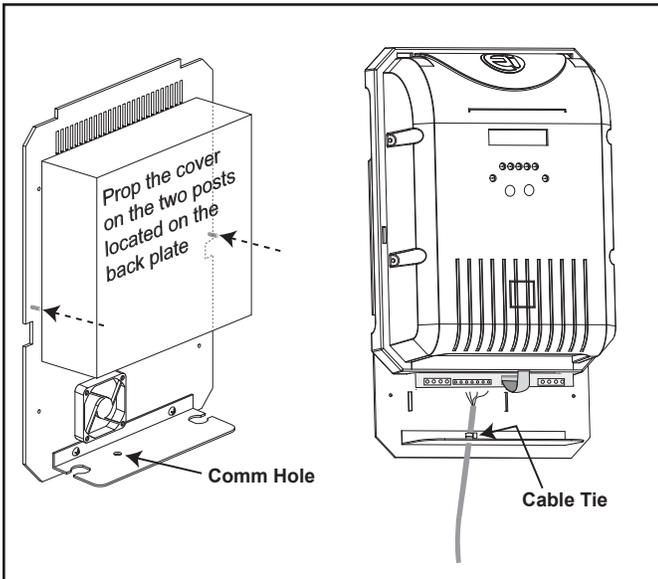

Figure 9. Accessing and Wiring to the Power PCB
4. Remove the white cap covering the comm hole (see Figure 9).
6. Attach a cable tie to the controller cable as shown (see Figure 9).